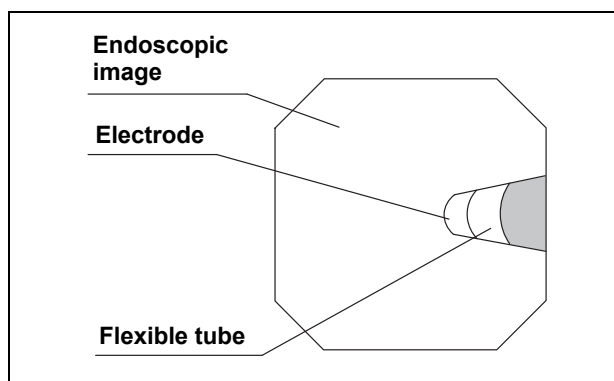

Figure 4.3
- Always confirm that the electrode section of the electrosurgical accessory is an appropriate distance away from the distal end of the endoscope. Confirm that the flexible tube at the distal tip of the electrosurgical accessory can be completely observed on the endoscopic image (see Figure 4.3). If the electrode is used when too close to the distal end of the endoscope, the endoscope and/or ancillary equipment may be damaged. Using a damaged endoscope may cause patient injury.